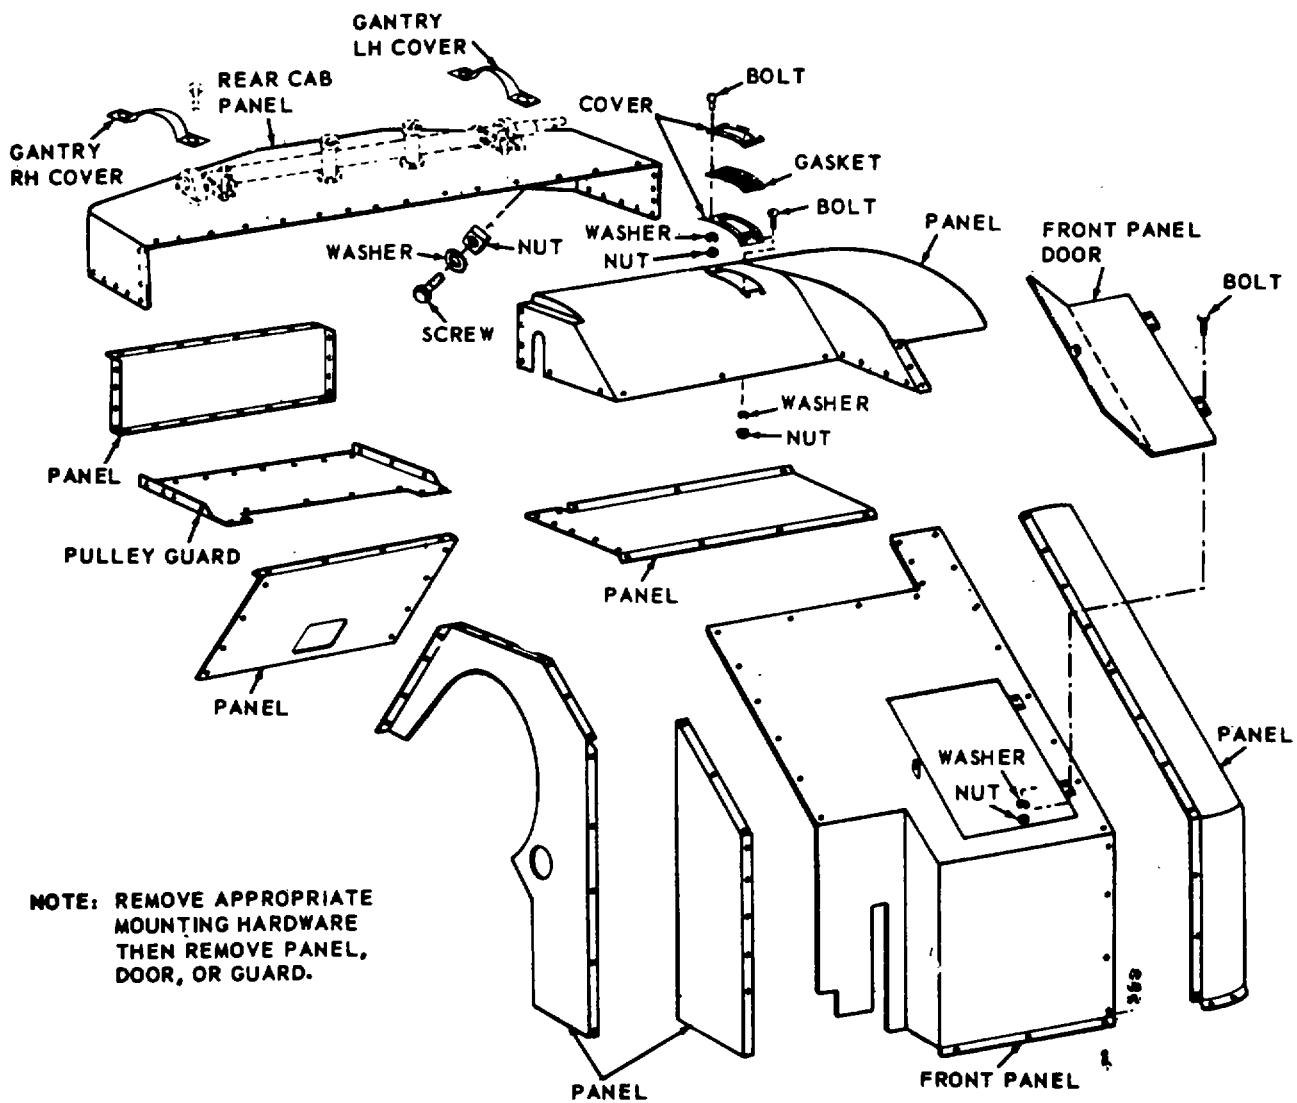

Figure 3-121. Panel, cover, and doors, removal and installation
- (1) Refer to figure 3-121 and remove left front panel door.
- (2) Install in reverse order.
Refer to figure 3-121 and remove or install the rear cab panel.